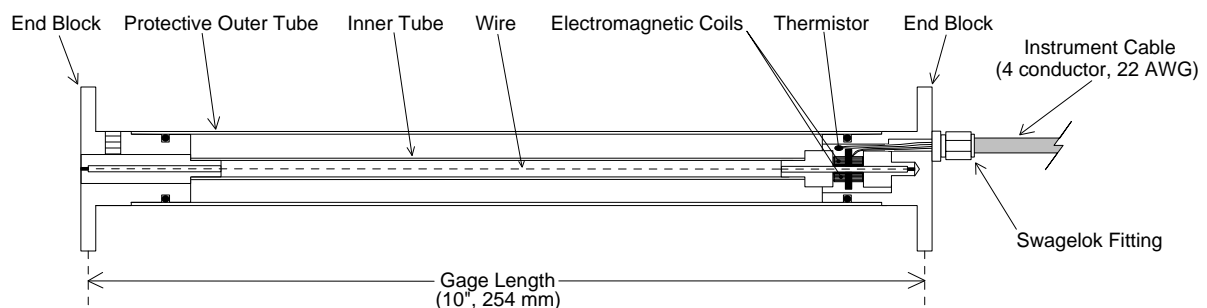

Figure 3 - Model 4210 Vibrating Wire Strain Gage
The Model 4210 Vibrating Wire Strain Gage is designed for embedment in large aggregate concrete (greater than  $\frac{3}{4}$  inch). The standard gage length for the Model 4210 is 10 inches; other gage lengths are available (Model 4212 = 12 inches, Model 4214 = 14 inches, etc.). See Figure 3.
- Lightning arrestor boards and enclosures are available from Geokon that install at the exit point of the instrument cable from the structure being monitored. The enclosure has a removable top so, in the event the protection board (LAB-3) is damaged, the user may service the components (or replace the board). A connection is made between this enclosure and earth ground to facilitate the passing of transients away from the gage. See Figure 3. Consult the factory for additional information on these or alternate lightning protection schemes.